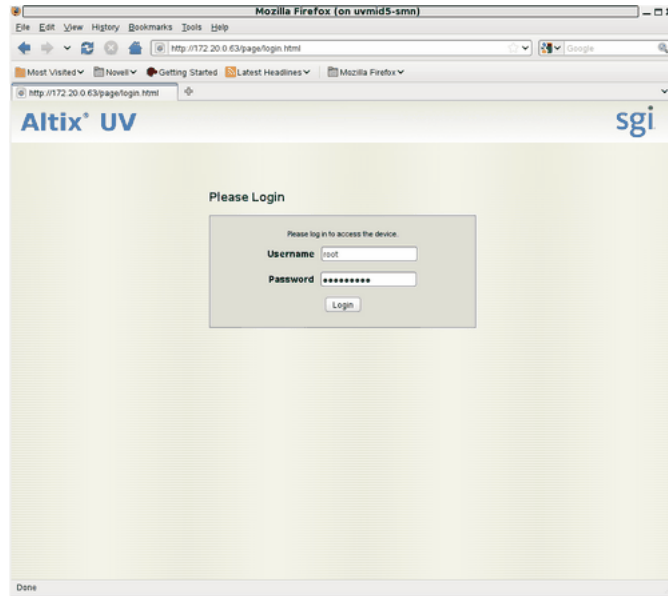

Figure 3-1 BMC Login Screen
4. The BaseIO node BMC login screen appears, as shown in Figure 3-1 on page 43. Login as **root** with the password **superuser**.